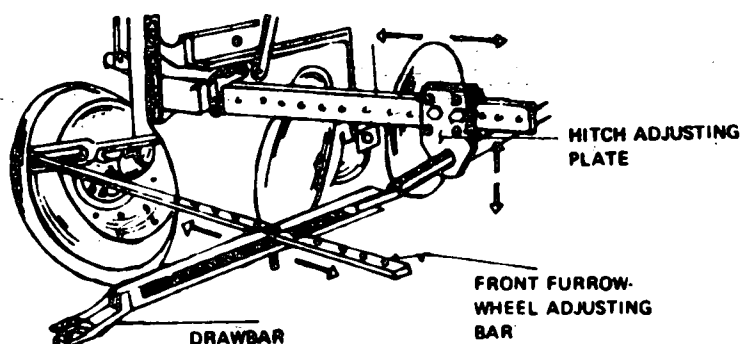

Fig. 5
**5th Step - Adjust the draw-bar, thus: (Fig. 5).**